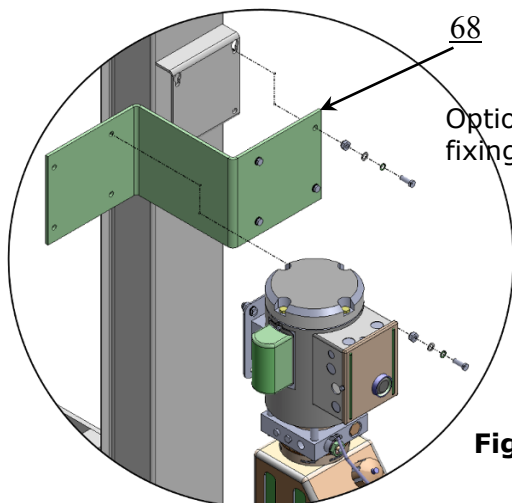

Fig. 33
O. Install Rear wheel stop plates (See Fig. 33)
2. Install optional motor fixing bracket (See Fig. 33, 34).